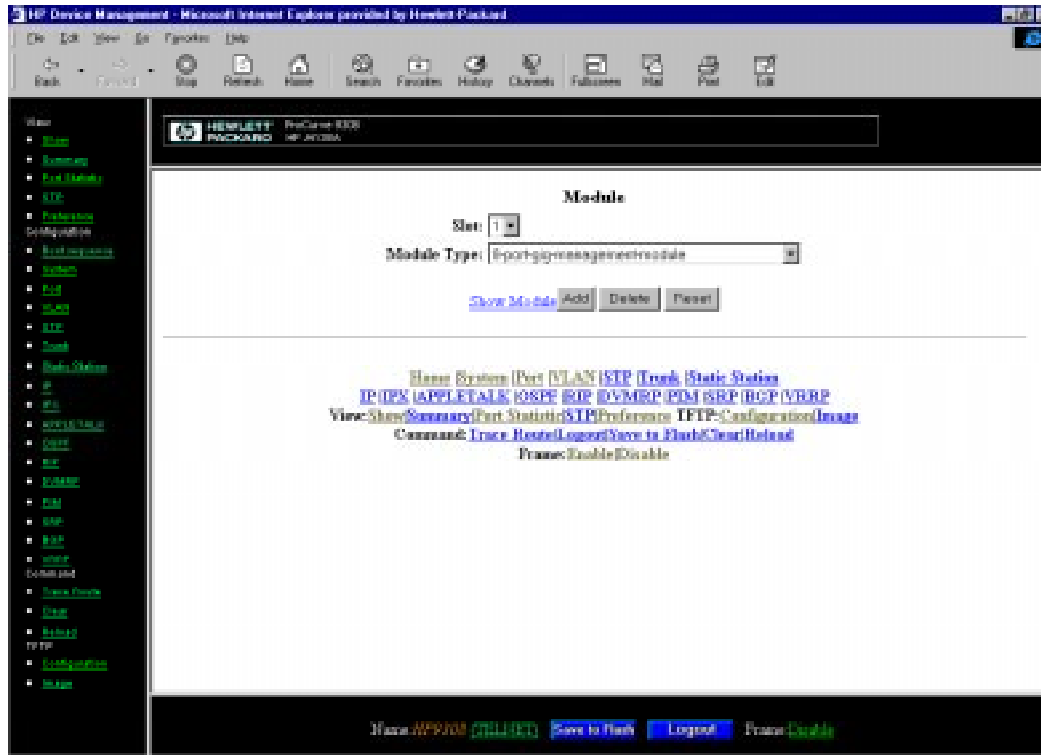

Figure 3.1 Module panel
5. Select the Add Module link to display a panel such as the one shown in Figure 3.1.